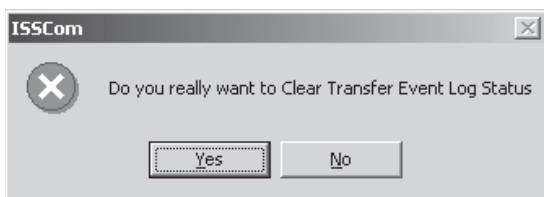

Figure 3-27 Clear Transfer Event Log Status Command Confirmation Screen
- From the ISScom Main Screen menu select **System/Transfer Event Log/Clear Status**. ISScom will display the Clear Transfer Event Log Status confirmation screen (Figure 3-27).